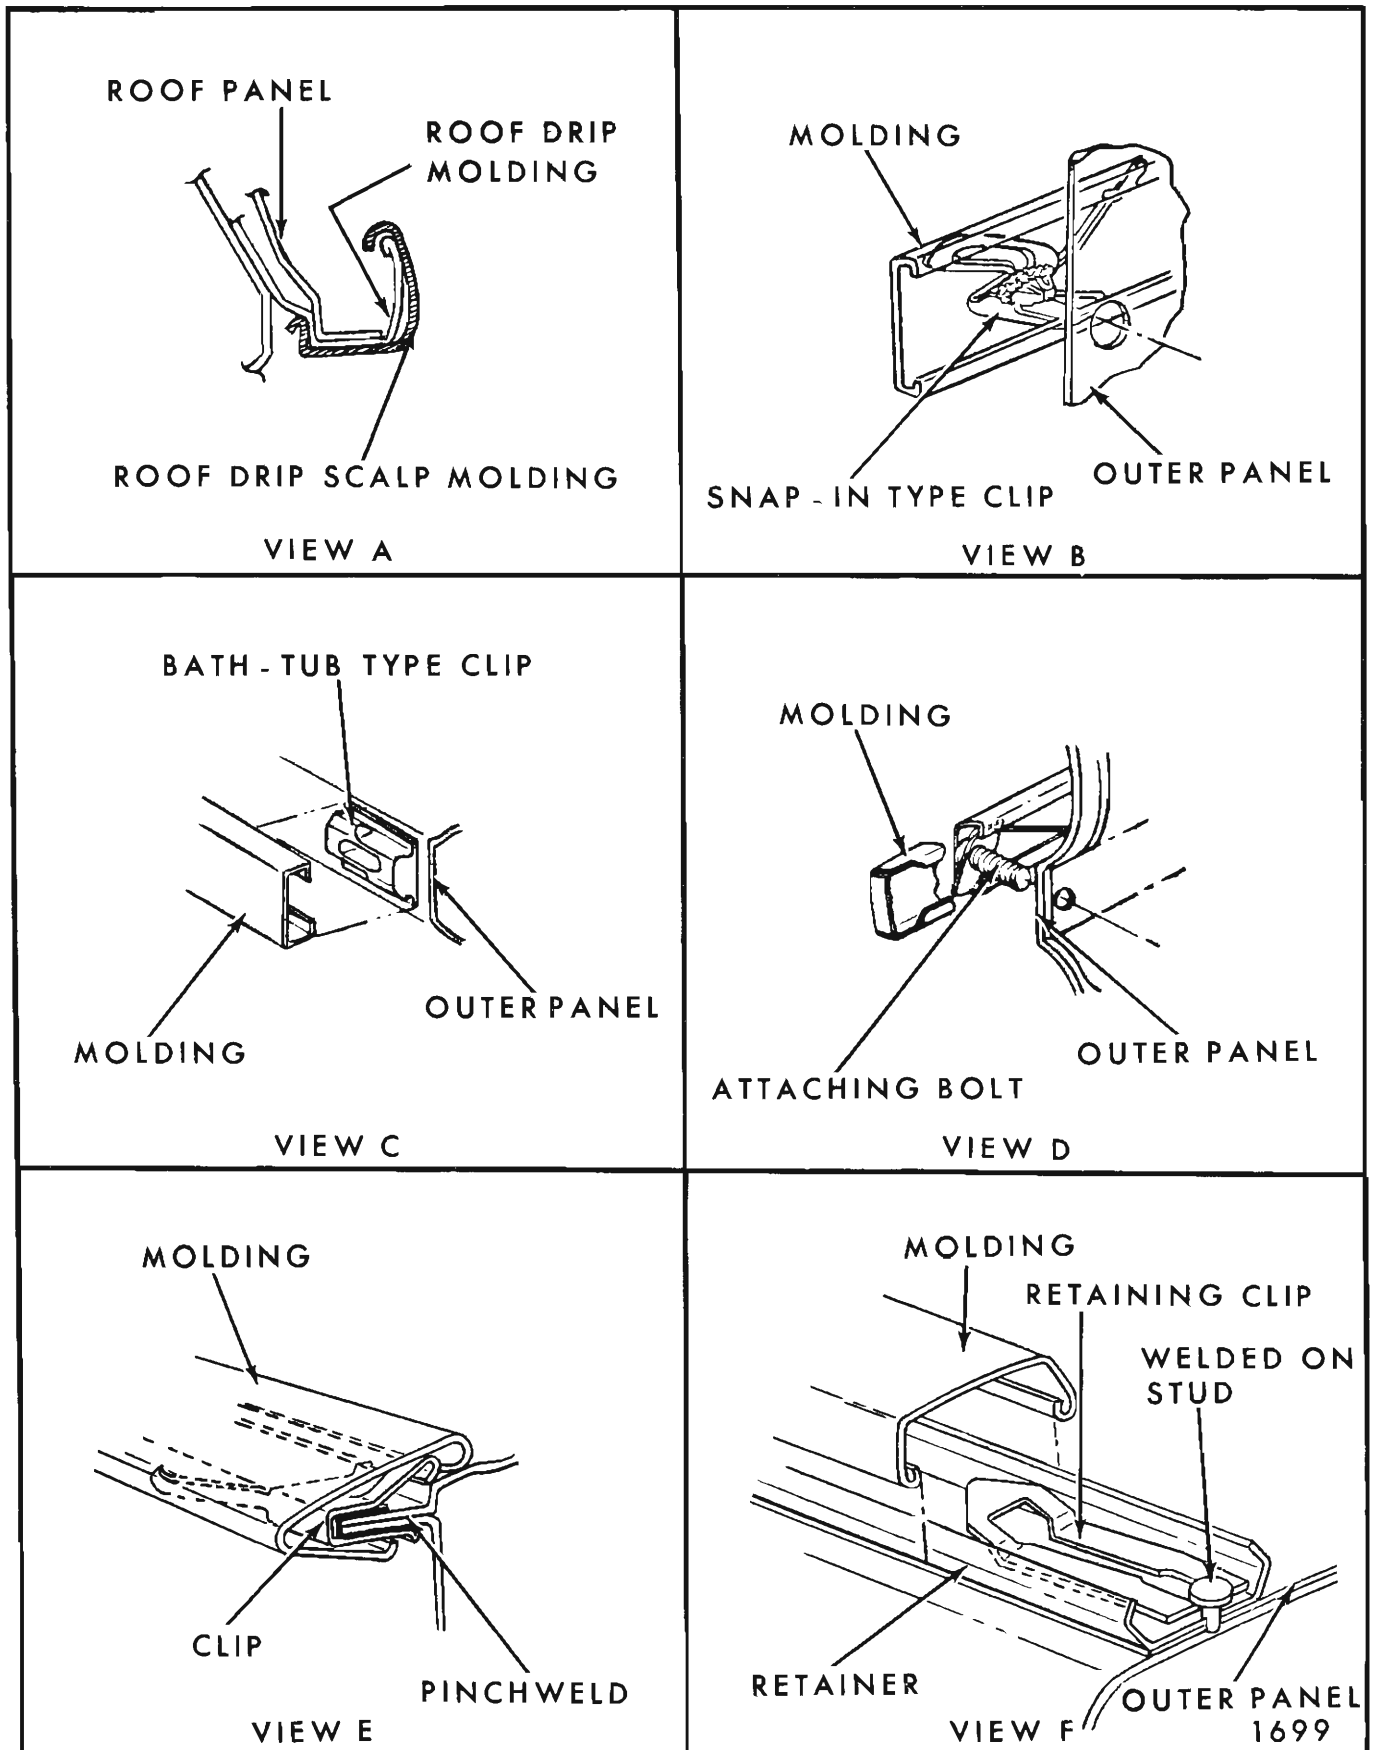

Fig. 2K2—Typical Molding Attachments
1. Insert sharp edge of flat-bladed tool, such as a putty knife, under edge of clip and hammer tool until base of clip is cut approximately half-way through (Fig. 2K1) then disengage clip from hole.